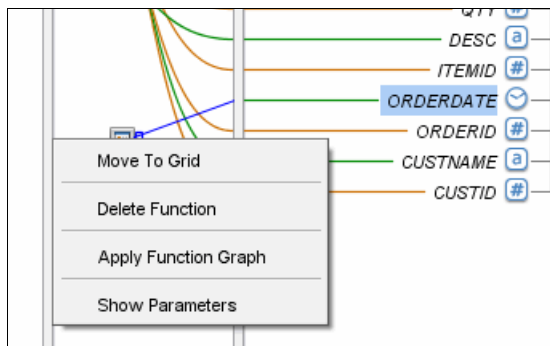

Figure 12-72 Mapping Get Current Date to ORDERDATE
9. Right-click the Get Current Date function in the center pane, and select **Apply Function Graph**, as shown in Figure 12-72.